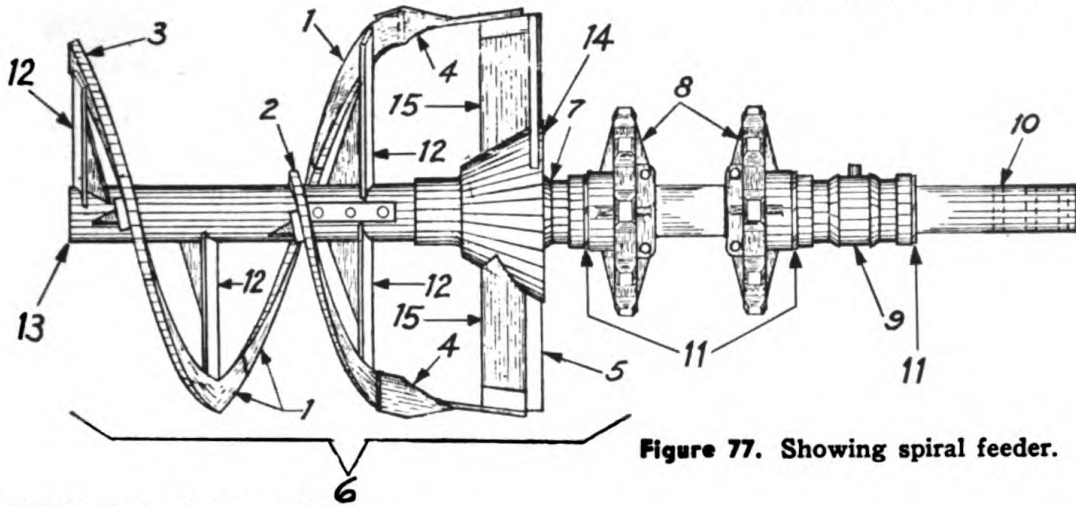
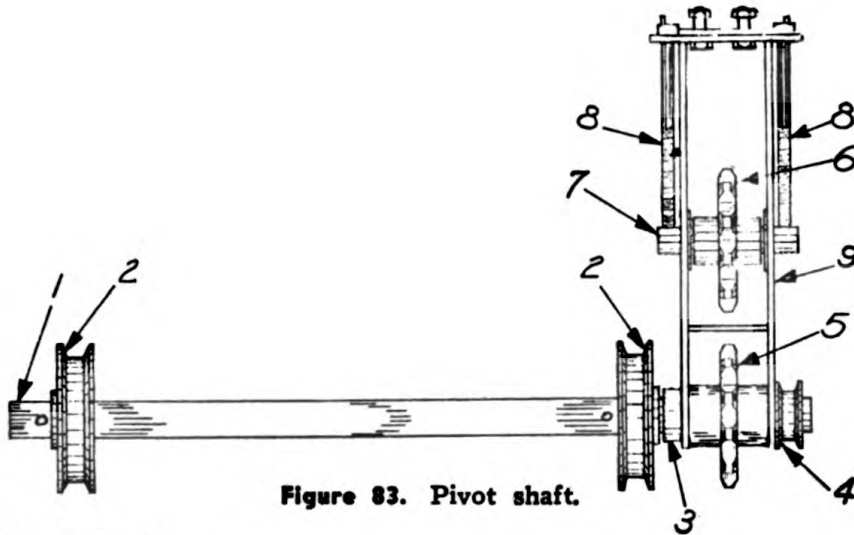
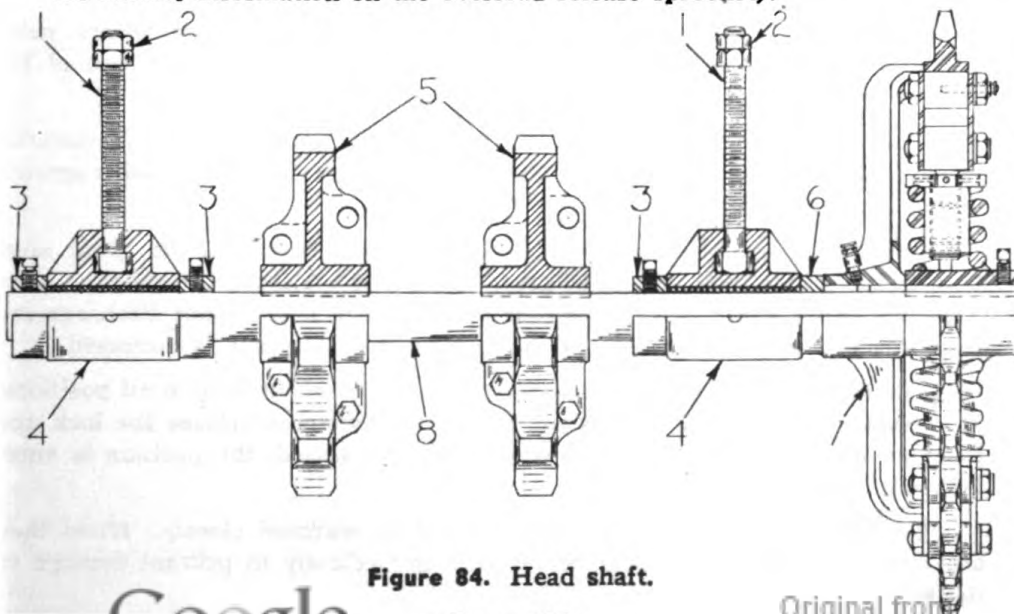

Figure 77. Showing spiral feeder.
Figure 83. Pivot shaft.
Figure 84. Head shaft.
The bucket line footshaft (10) Figure 77 is supported by two bronze bushed, ball and socket bearings (7) and (9) which are attached to the lower end of the elevator main frame. Bronze washers (11) located at the ends of each bearing take the thrust developed by the action of the spiral (6).
The bucket elevator is carried by this shaft assembly Figure 83. This assembly mounts in a structural bracket on the under side of elevator frame.
The headshaft (8) Figure 84 is the drive end of the bucket line and the point of discharge for material. On the headshaft is assembled the two bucket line sprockets (5). These sprockets are split so they can be renewed without removing entire headshaft. The headshaft is mounted in two babbitted take-up bearings (4) each being held in position by a locked bolt (1) used for taking up bucket line slack. On this shaft outside of frame (opposite operator) is assembled the overload release sprocket (7). Refer to "Bucket Line Drive" for further information on the overload release sprocket).
The bucket line drive transmits power from the main jackshaft to the bucket line headshaft (8) Figure 84. The chain runs from the drive sprocket on the main jackshaft across the idler sprocket (6) Figure 83 on the pivot shaft (1) to the bucket line head shaft. The chain runs through the take up frame at which point the chain may be adjusted.
The overload release sprocket (7) Figure 84 on the headshaft is an automatic overload release to protect the spirals (6) Figure 77 and the drive chains from damage should an overload or foreign objects be encountered. The sprocket driven by the drive chain is not keyed on the shaft. The sprocket has two cam recesses cast in the roller track. The roller and spring unit is keyed to the shaft with the rollers running inside the cam race of the sprocket (7) Figure 84. In operation the rollers are driven by contact with the sprocket cams. When an obstruction is encountered or the bucket line is overloaded the springs compress allowing the rollers to ride through the cam recesses. Each half revolution thereafter the rollers press in the recesses and automatically release again until the obstruction is cleared or the overload relieved. At no time should the tension of the springs be so great that the engine will pull down to a stall without the sprocket releasing.